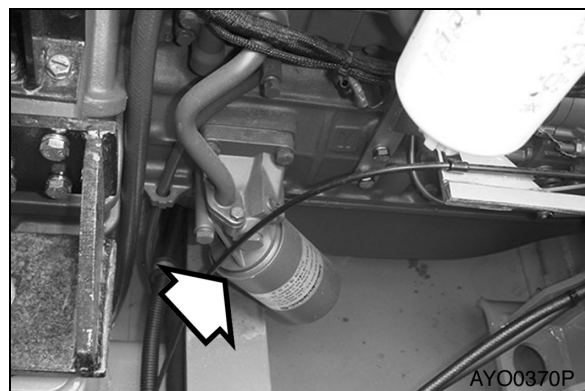

Figure 48
2. Replace engine oil filter by using filter wrench. The engine oil filter is a spin-on type. See Figure 48. Remove and discard filter.